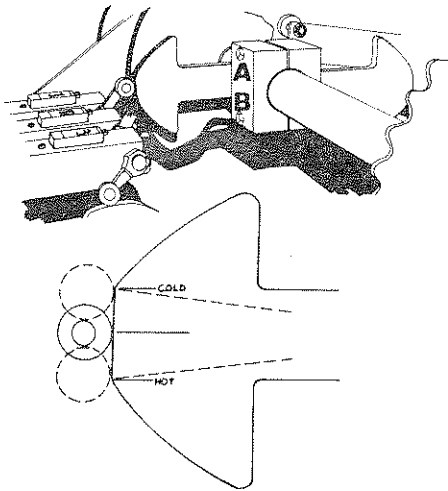

Fig. 38
7. Loosen and tighten appropriate clamp bolts "A" and "B" in order to rotate cam as necessary to center it on the switch arm roller, see Fig. 38.
14. Check needle yoke stopping position. The cam should stop with the switch arm roller near the center or slightly beyond the center of the cam as illustrated in Fig. 38 (Cool and hot oil location).
17. Repeat Steps 8-16 omitting Step 15 until the cam is in required location, see Fig. 38.